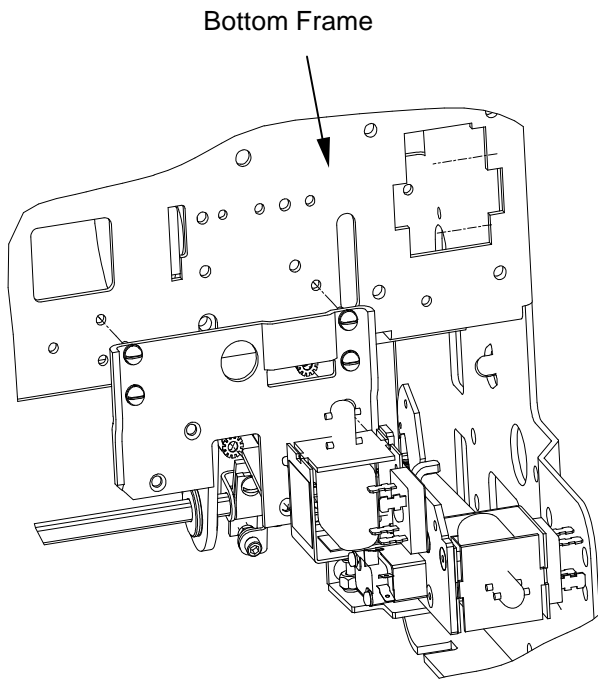

Figure 63. Network Interlock assembly mounting to the circuit breaker bottom frame. (Shunt Trip omitted for clarity.)
3. Remove the accessory mounting plate as shown in Figure 63.
5. Assemble the accessory mounting plate to the circuit breaker frame using four sets of # 10-32 screws, spring washers, and flat washers as shown in Figure 63.